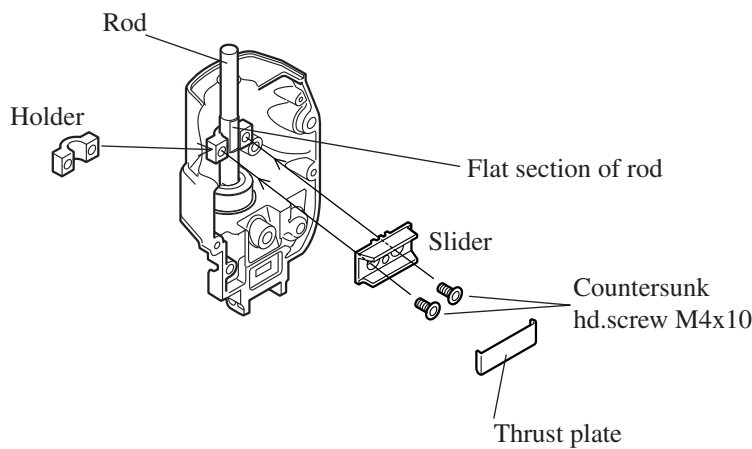

Fig.3
2. Attach holder under flat section of rod. See fig. 3.
3. Attach slider to rod, making sure that the flat surface on the slider matches the flat surface on rod. See Fig. 3.
4. Tighten countersunk hd.screw M4x10 used to hold the slider. See fig. 3.
5. Set thrust plate on slider with the folded ends toward the inside of the gear housing cover. See fig. 3.